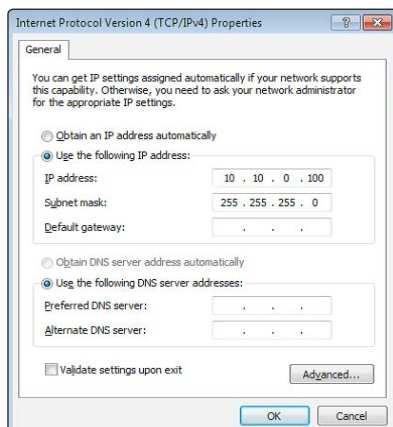

Figure 28. IP address and subnet mask settings for direct connection
**For a direct connection between the Direct Detect® instrument and the computer,** enter the custom IP address 10.10.0.100 and subnet mask setting 255.255.255.0 (Figure 28).